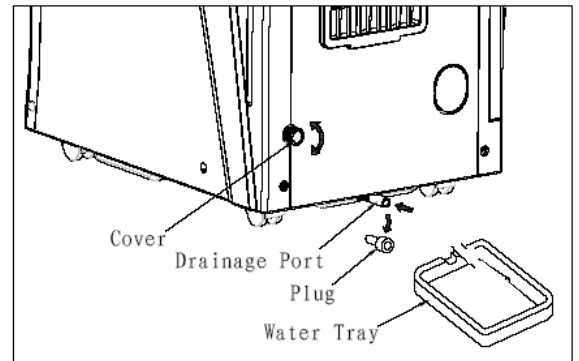

Fig. 10
2. Place a water tray or pan under the drainage port. (Fig. 10)